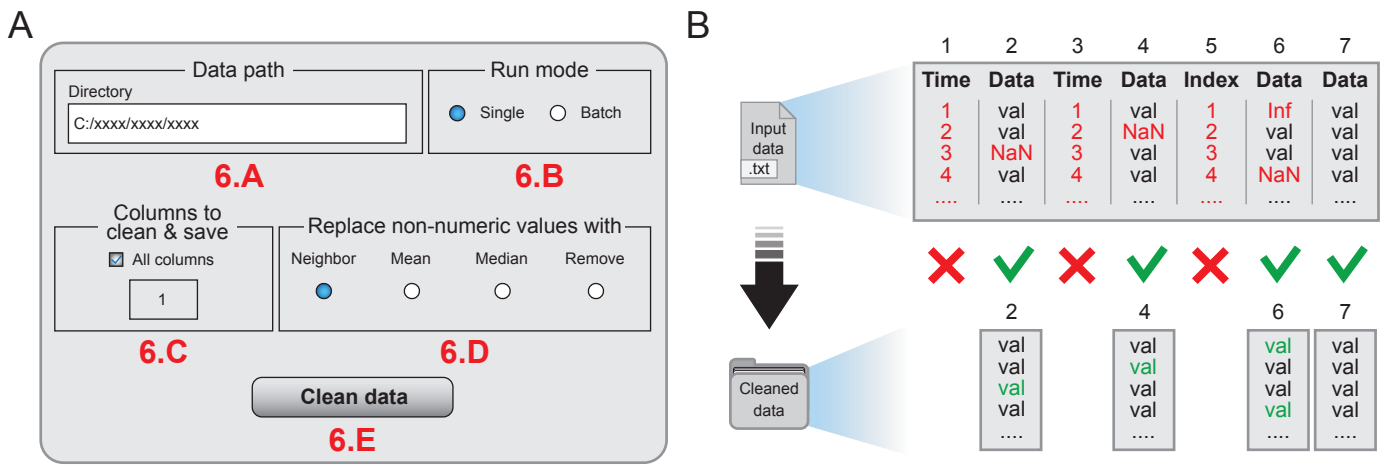

Figure S7: Graphical user interface of *DataDuster*
6. After pressing “Run”, a graphical user interface (GUI) will appear, in which the user can adjust the run settings for *DataDuster* (Figure S7).